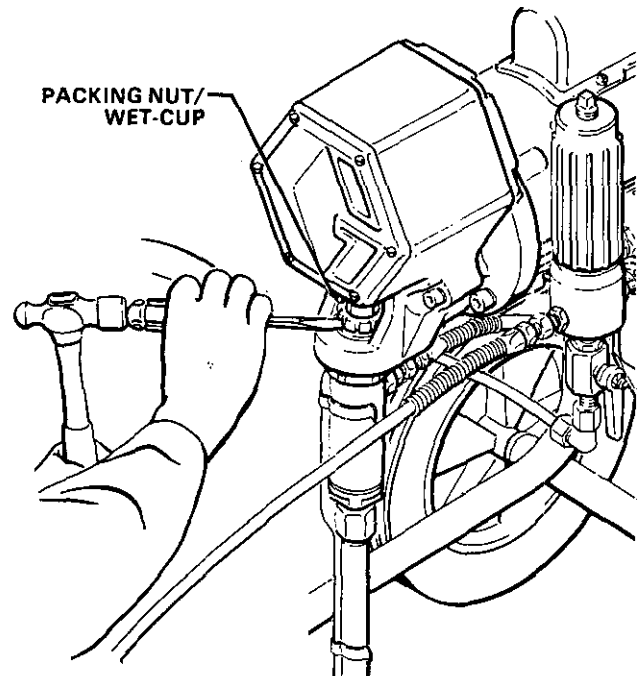

Fig 8
- Check the packing nut/wet-cup daily. First follow the **Pressure Relief Procedure** on page 10. Be sure the wet-cup is 1/3 full of TSL at all times to help prevent fluid buildup on the piston rod and premature wear of packings. The packing nut should be tight enough to stop leakage, but no tighter. Overtightening may cause binding and excessive packing wear. Use a screwdriver and light hammer to adjust the nut. See Fig 8.